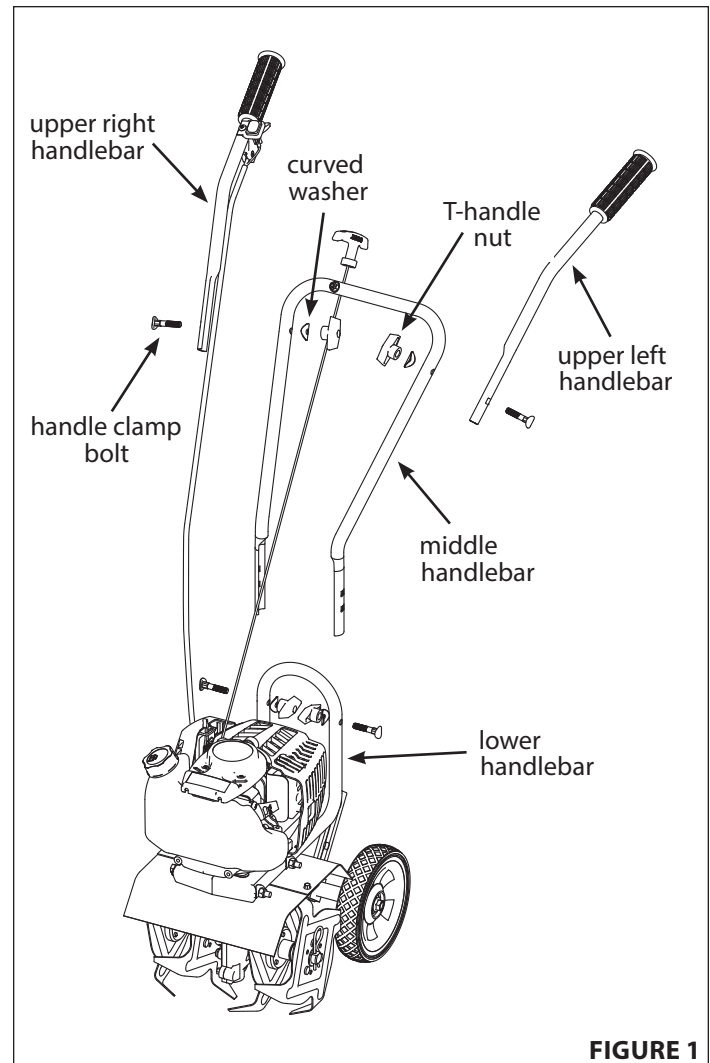

FIGURE 1
2. Using two T-handle nuts, two handle clamp bolts, and two curved washers, attach the middle handlebar to the lower handlebar that is already connected to the cultivator assembly (**SEE FIGURE 1**). Make sure the pull cord is in the center of the middle handle bar when attaching. The middle handlebar can be installed in one of two positions, one high and one low. **DO NOT** overtighten the T-handle nuts.
3. Attach the upper right and left handlebars to the middle handlebar using the two remaining T-handle nuts, handle clamp bolts, and curved washers (**SEE FIGURE 1**). **DO NOT** overtighten the T-handle nuts.